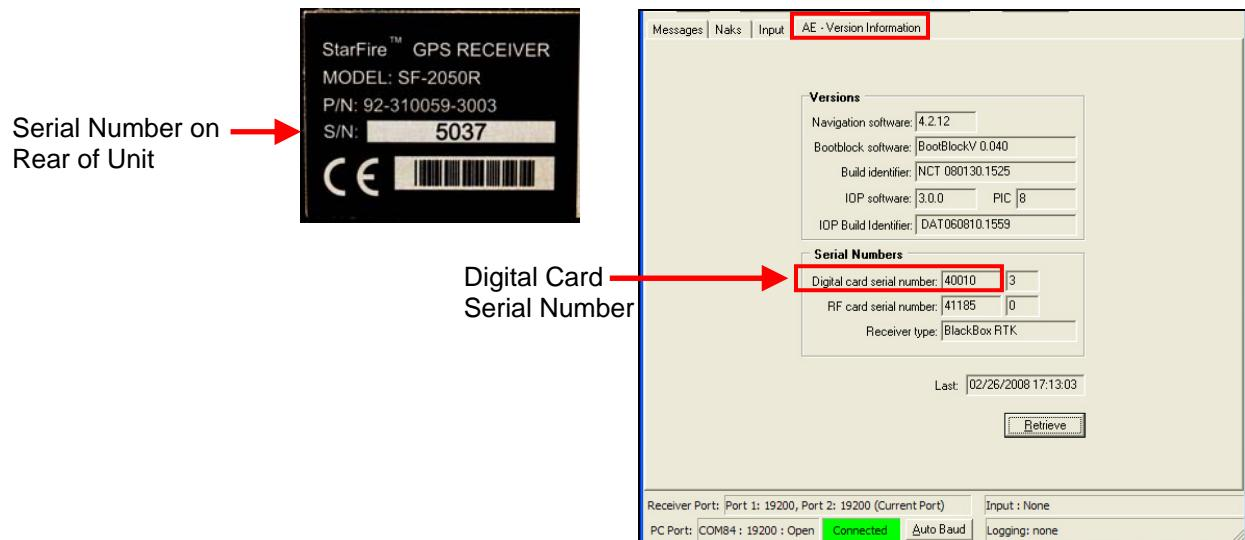

Figure 119: Unit & Digital Card Serial Numbers
6. Refer to Figure 119 to locate: